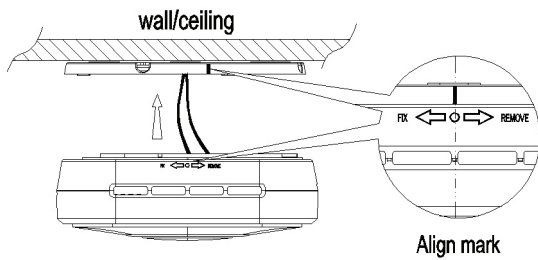
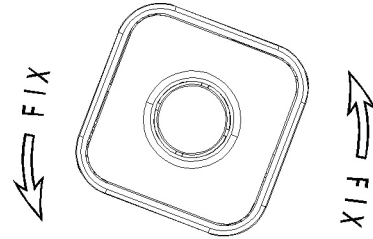

Fig. 12.
Fig. 13.
7. Aim the dot located in the middle of two arrows on the side of the detector with the vertical lines on the backboard. See Fig. 12. Then rotate detector following the "FIX" direction shown in Fig. 13. RS-485 wiring is completed.